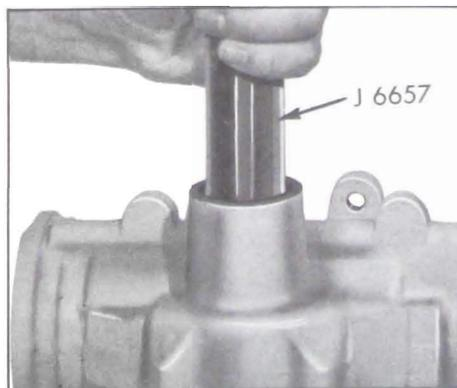

Figure 8-48—Removing Pitman Shaft Needle Bearing
2. Check the pitman shaft needle bearing for being worn, pitted or scored. If damaged, remove needle bearing from gear housing bore by driving from the seal bore side of housing using Tool J-6657. See Figure 8-48. Discard bearing.